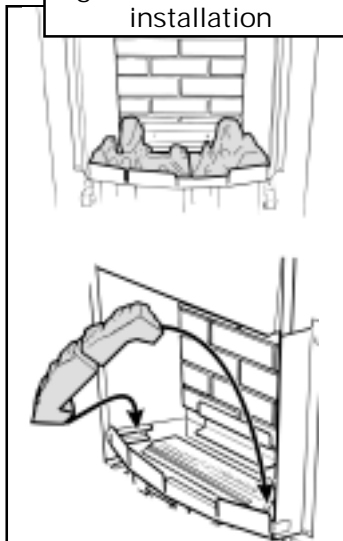

Fig. 5 Front coal installation
2. Place the two halves of the front base coal in the burner compartment so that they rest on the ledges at the sides and front. Pull the coals forward so that they are **immediately behind the front rim of the burner compartment** (See fig. 5).